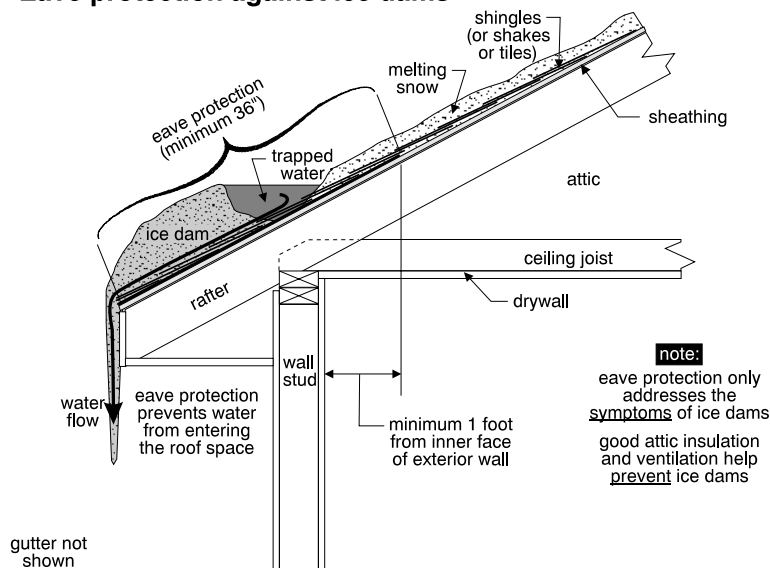

Figure 5. Ice Damming
1.14 High Risk of Ice Damming: Some roofing configurations are more prone to ice damming problems than others. Ice damming occurs when snow and ice collect in a certain area of the roof (often the eaves). Melting snow on the upper portion of the roof cannot drain properly as it is trapped behind the ice dam. See Figure 5. If the dam is large enough and sufficient water collects, it will back up under the shingles and leak into the eaves or worse, into the exterior walls or the building interior.